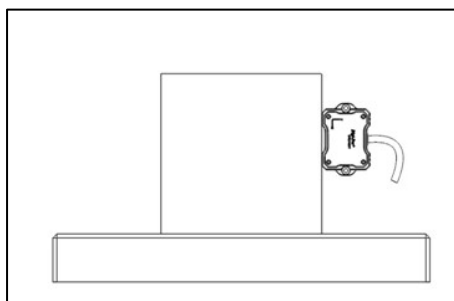

Figure 45. Tilt Sensor Module Position of Calibration Step 3
3. Locate the sensor module as following Figure 45. The sensor is ready for user to perform calibration step 1
11. For **DWL5500XY & DWL5800XY** model, please perform only 4 steps calibration as shown in Figure 45, 46, 51, and 52.